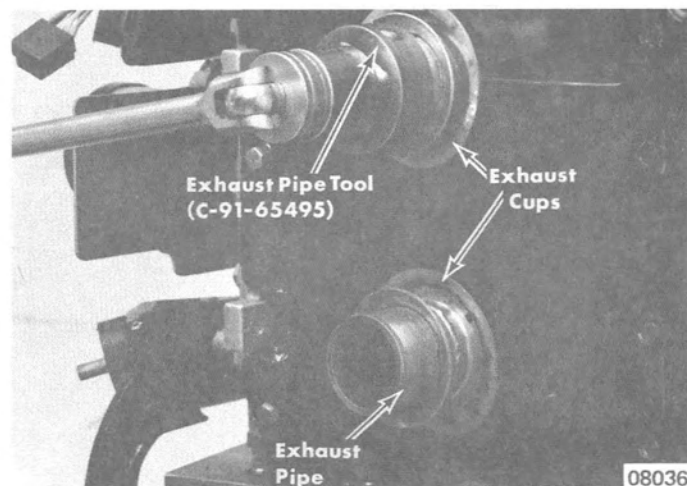

Figure 2. Removing Exhaust Pipes
5. Remove exhaust pipes from engine, using Exhaust Pipe Tool (C-91-65495). (Figure 2) Remove exhaust cups from engine shroud. Exhaust cups (right and left) conform to shape of engine shroud.